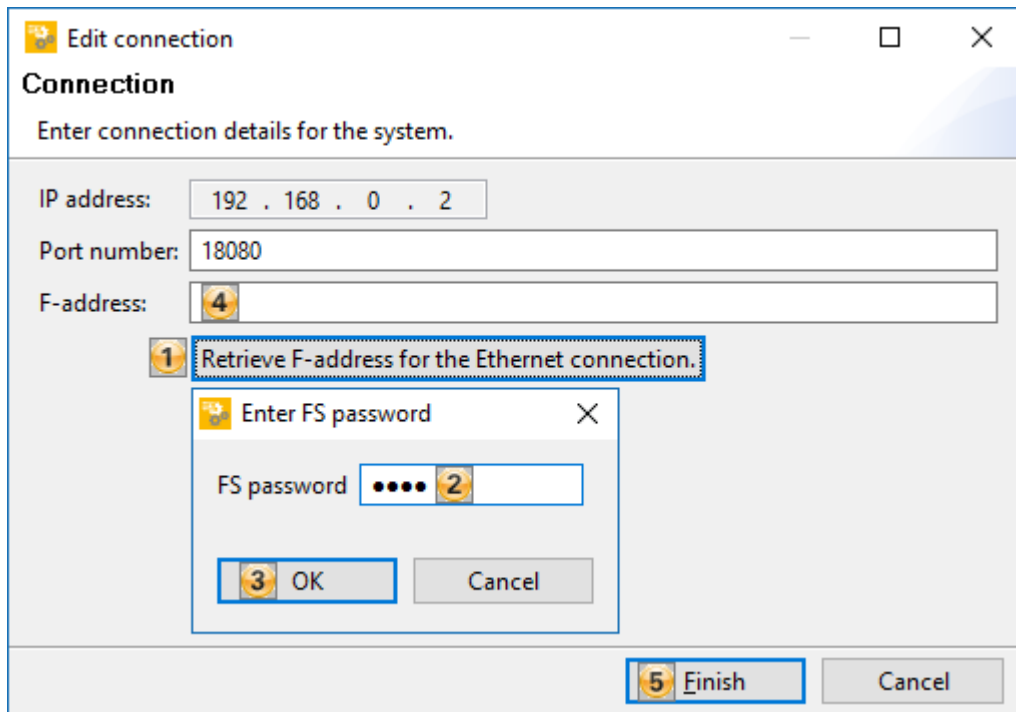

Figure 62: PASconfig – Connection » Read out the F-address for the Ethernet connection
- Now click on the button »Edit«, a window like in Figure 62 opens:
- There you click on the button »Retrieve F-address for the Ethernet connection.« (1).
- Now you are asked to enter the FS password (default: "pssu") (2)(3), to execute the function:
- » This F-address is then displayed (4) and
- » temporarily assigned for the selected PDP67 device with »Finish« (5).